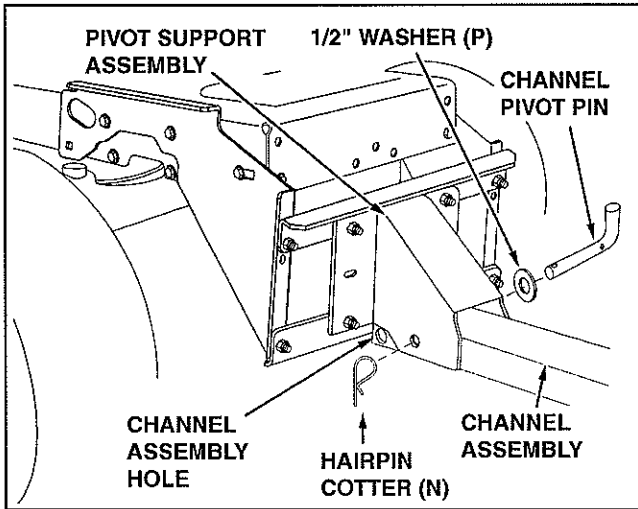

FIGURE 15 (Right Hand Side View)
28. Assemble the 1/2" washer (P) onto the channel pivot pin. See figure 15.
29. Attach the channel assembly to the tractor by placing the end of the channel assembly up inside the pivot support assembly on the tractor. Align the hole in the pivot support assembly with the second hole from the end in the channel assembly. Insert the channel pivot pin through the aligned holes from the left side and secure with a hairpin cotter (N). See figure 15.
8. Remove the hairpin cotter from the channel pivot pin and remove the pivot pin from the channel assembly. See figure 15 on page 8.